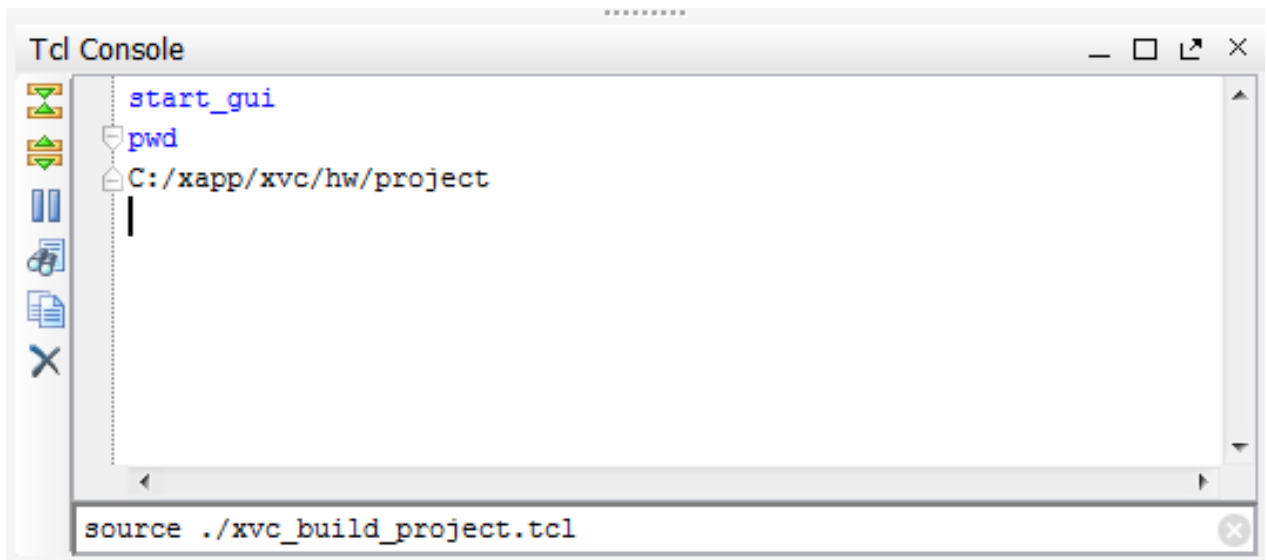

Figure 7: Sourcing a Tcl Script to Build the Vivado Project
1. After downloading the design and unzipping the download, open Vivado IDE and change the working directory to the `hw/project` directory within the Tcl Console. Then source the `xvc_build_project.tcl` within the Tcl Console to build the project, as shown in Figure 7.